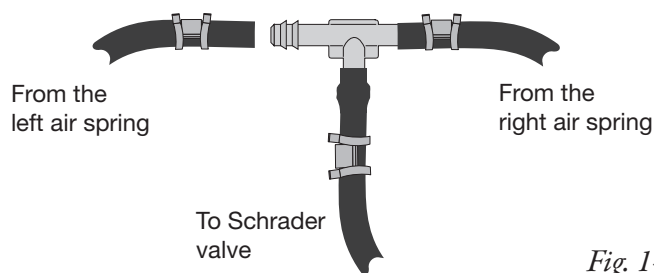
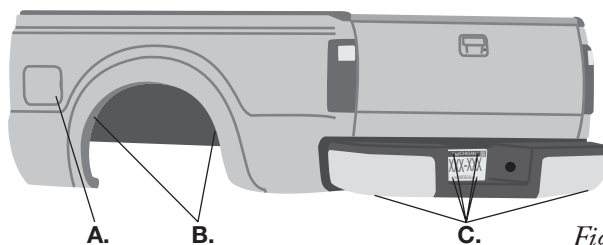

Fig. 14
Fig. 15
4. Use this procedure (Fig. 14) for all air line connections:
- a. Slide the air line clamp (E) onto the air line.
5. Select a location for the Schrader valve (N), ensuring that the valve will be protected and accessible with an air hose (Fig. 15). Drill a 5/16" (8mm) hole, if necessary. Determine and cut adequate length of air line to reach from the tee to the Schrader valve or from the air springs to the valve if using a dual-path installation.